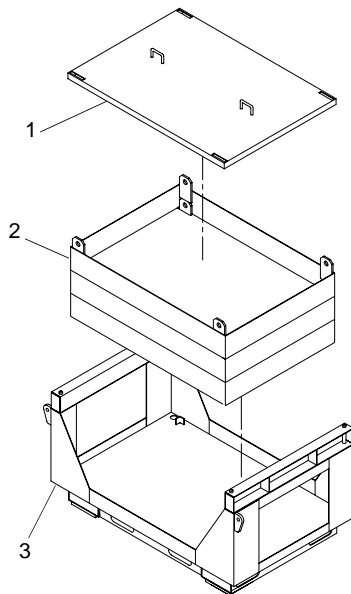

Figure 5. Hardware Storage Pallet
25. Using forklift, remove drawer cover (figure 5, item 1) from top drawer (figure 5, item 2) in pallet (figure 5, item 3).
26. Using forklift and slings, remove each drawer (figure 5, item 2) from pallet (figure 5, item 3) and place them on deck.
27. Remove ground tackle and tensioning gear from drawers in hardware storage pallet (figure 5, item 2) and position items on beach near anchors.
28. Using forklift and slings, place drawers (figure 5, item 2) in pallet (figure 5, item 3).
29. Using forklift, place drawer cover (figure 5, item 1) over top drawer (figure 5, item 2).